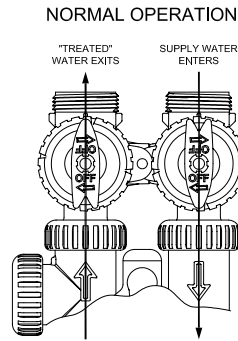

figure 1
1. Normal Operation Position: The inlet and outlet handles point in the direction of flow indicated by the engraved arrows on the control valve. Water flows through the control valve during normal operation and this position also allows the control valve to isolate the media bed during the regeneration cycle. (see figure 1)
When water is flowing steadily to drain without the presence of air, momentarily press **REGEN** again. Display will read **RINSE**. Open the outlet valve of the softener, or if using optional bypass place to **NORMAL OPERATION MODE** (see figure 1 on page 5). Allow control to finish the **RINSE** cycle. Allow the control to automatically advance to the **SOFTENING** position. Now load the brine tank with salt. Solar Salt is recommended. The brine tank salt level should be checked every couple of weeks to determine salt usage. Keeping the brine tank salt level at least 1/2 full is recommended.